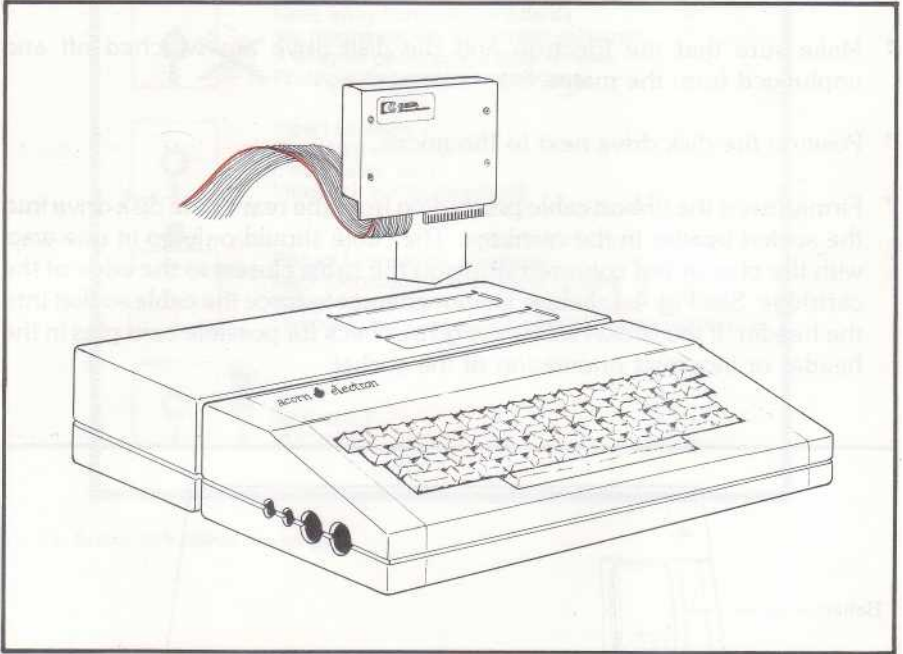

Fig. 4.2. Inserting the cartridge into the Plus 1
* Insert the cartridge into the Plus 1 as shown in Fig. 4.2. below preferably into the rear of the two sockets provided, so that the first is available for additional cartridges.